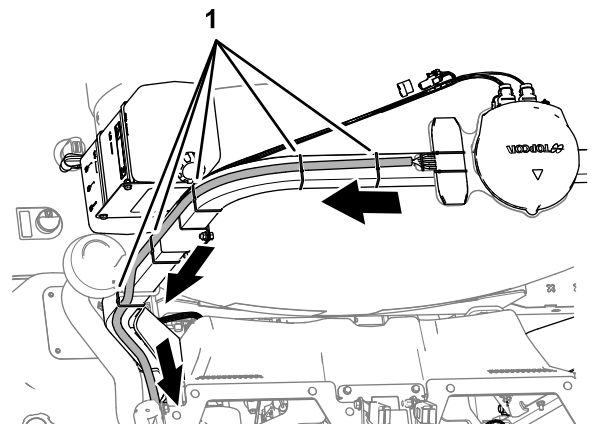

Figure 57
1. Route the modem-antenna harness along the roll bar as shown in Figure 57.
3. Secure the modem-antenna harness to the roll bar with 5 cable ties as shown in Figure 57.